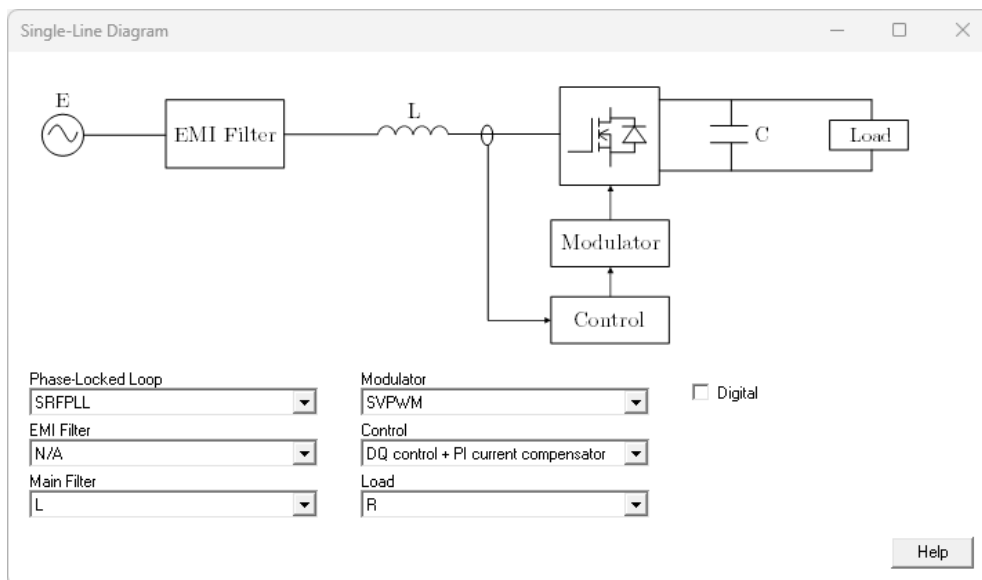

Figure 7: Single-Line diagram window
4. The first window that appears is the Single-Line diagram (SLD). See Figure 7.